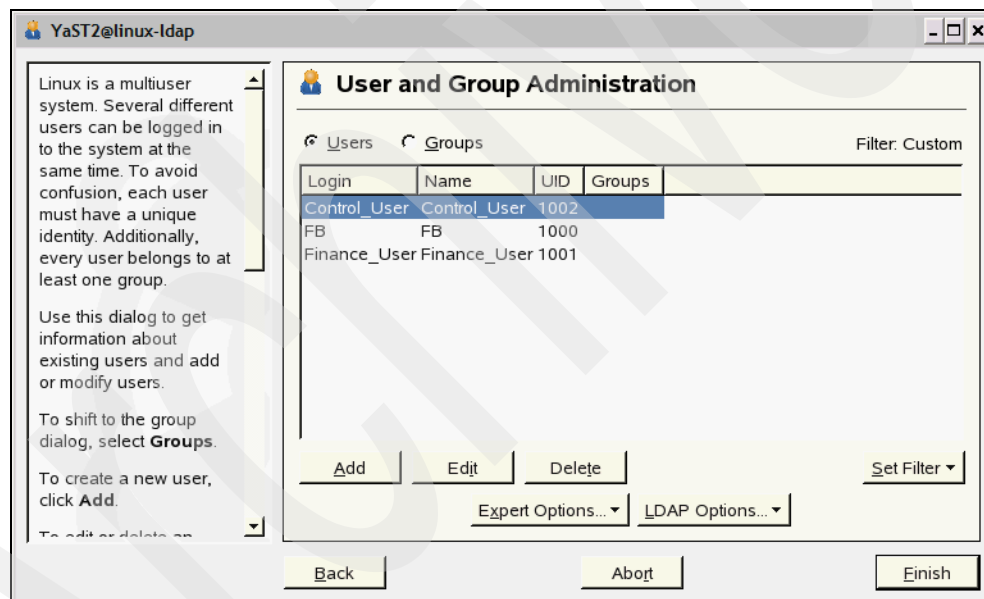

Figure 7-4 User administration
3. Enter the password and click **OK**. A new window opens, as shown in Figure 7-4. You can use Set Filter to limit the view of users to the LDAP users.